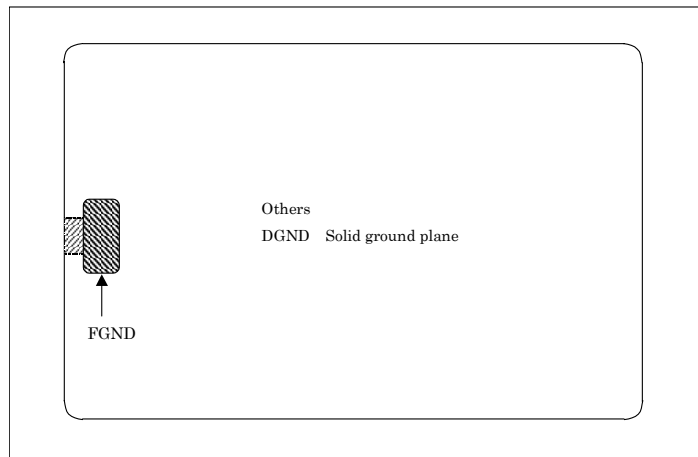

Figure 1 M3A-0038G01 second layer
- All the digital grounds (DGND) are solid ground plane except the areas near the USB connector on the second layer. Refer to the following Figure 1.